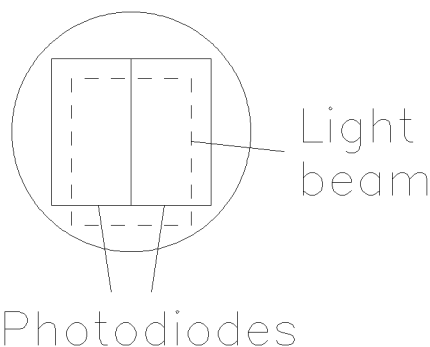

Figure 3-12. Lightbeam on Photodiodes
5. Turn on the detector, and look at the photodiode area. By hand, move the mirror such that the light beam falls equally on the photodiodes as shown in Figure 3-12. Before you start, read the general information below for an overview of the job, and some helpful hints.
- b. Loosen the pitch screws. Adjust the mirror pitch so that the beam is related to the photodiodes as shown in Figure 3-12. Then, re-tighten the pitch screws.